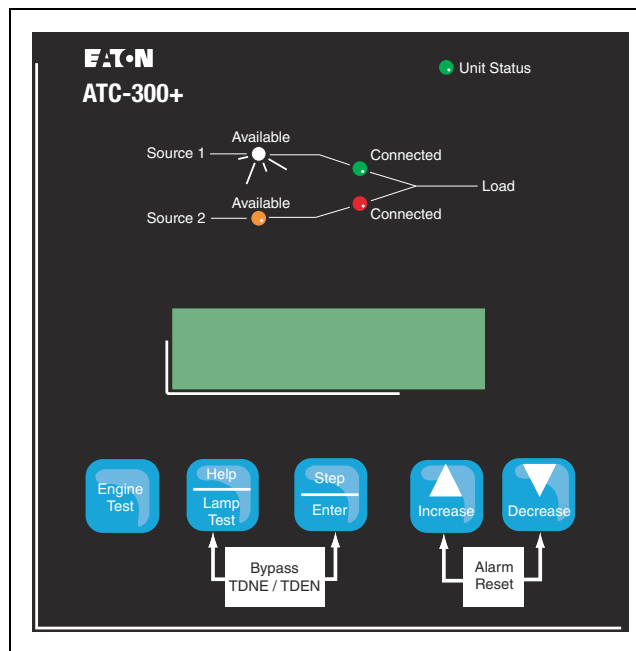

Figure 24. ATC-300+ Logic.
Step 9: Initiate a Load Test from the front panel of the ATC-300+ (Figure 24). This may be done by setting the engine test mode setpoint to: